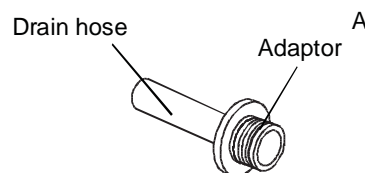

Fig.7
- Make sure the drain hose is onto the adaptor A (See Fig.7, placed in the bucket).